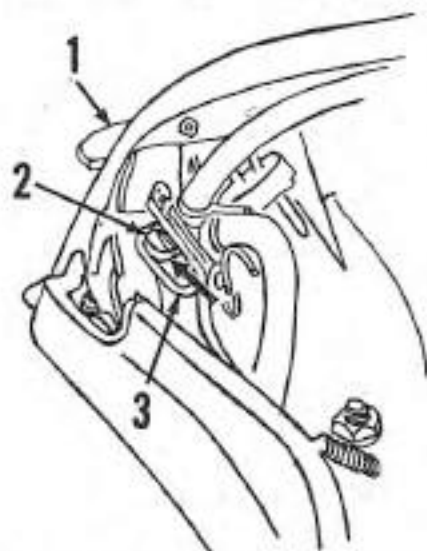

Fig. Mc46—On early Fishing Scott models the fuel system bleeder valve is operated by the choke knob as shown. See text for details.
Tiltson Model HC: On models equipped with the diaphragm type carburetor, it is necessary to bleed the fuel system prior to starting the motor. On early motors to bleed the fuel system, depress the choke button and squeeze the primer bulb located in fuel line until a solid stream of fuel is discharged from starboard side of motor. On late motors, the bleed valve is opened by turning the speed control grip fully clockwise until the "VENT" marking is aligned with arrow, then squeeze the primer bulb. On all models, maintain pressure on the primer bulb until the bleed valve is closed. On early models the bleed valve may be adjusted as follows: Refer to Fig. Mc46. Loosen screw (2). Fully depress choke button (1) and move bleed valve (3) in direction of arrow as far as possible then tighten screw (2). When choke button is released, there should be no contact between the stop on choke rod and stem on bleed valve. If there is, move bleed valve just slightly in opposite direction until clearance exists.